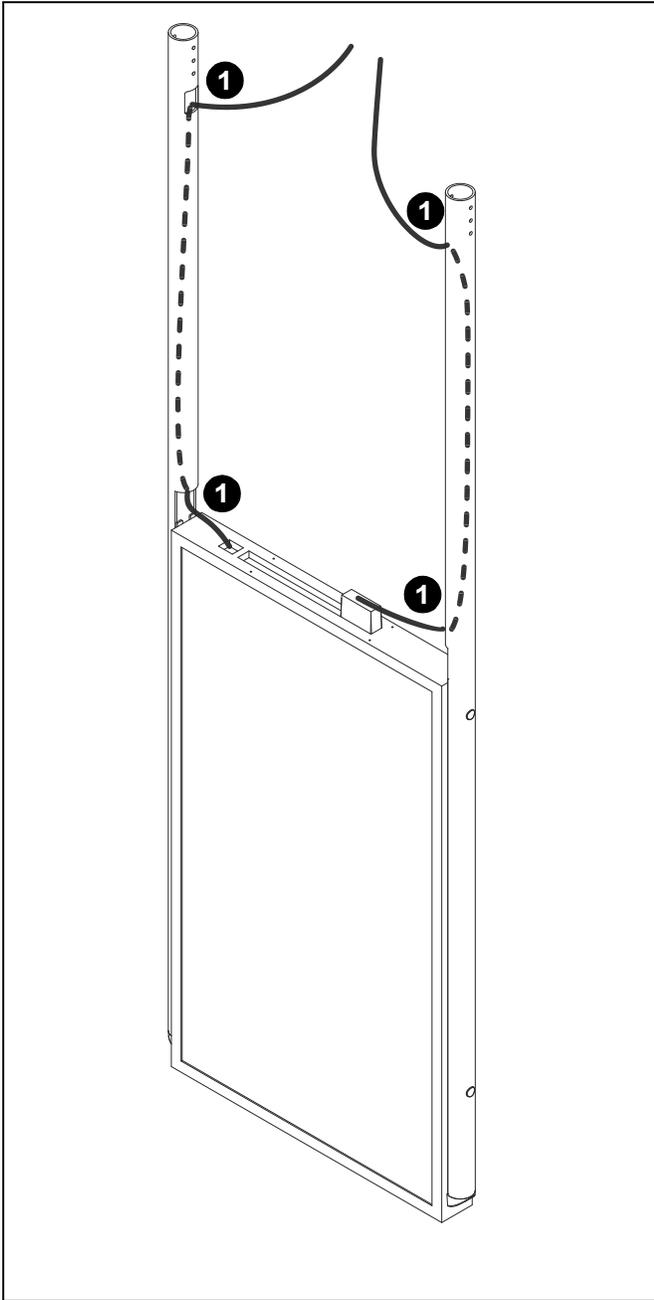

Figure 5
1. Route cables through ceiling posts (A) as desired. (See Figure 5)